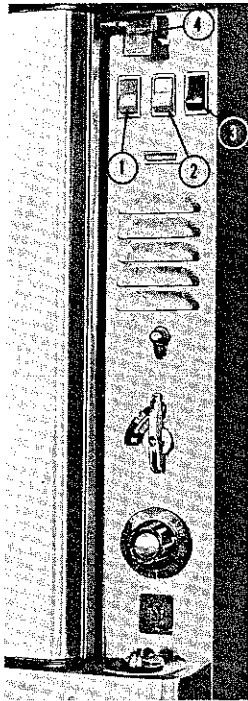

FIG. 11
1. The blower is directly connected to the motor which is operated by the On-Off switch on the control panel marked BLOWER (Figure 11, No. 1).
3. The Man-Off switch on the control panel marked COOL DOWN (Figure 11, No. 3), should normally be in the Auto position to allow proper automatic operation of the blower. However with the doors open the blower may be operated by placing COOL DOWN switch to Man position. This feature allows rapid lowering of temperature in the oven.